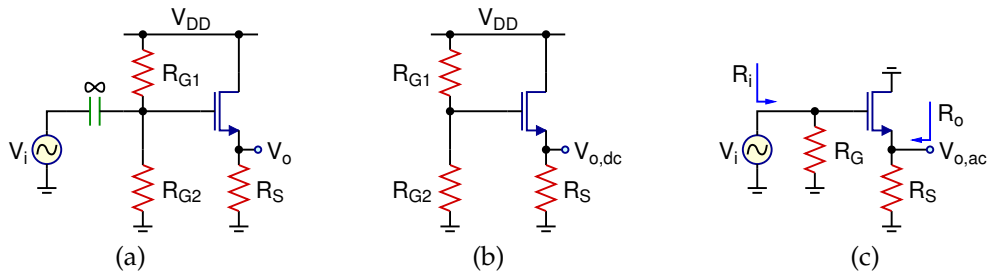

Figure 5: (a) NMOS Common-Drain (Source Follower) Configuration (b) DC equivalent (c) AC equivalent
Figures 5 and 6 show the common-drain configurations (also known as source follower) for NMOS and PMOS transistors, respectively. DC analysis of this configuration can be performed using the same equations given in (1) and (2), whereas AC analysis yields
- Using 2N7000G and the same R_{G1} , R_{G2} and R_S values from your common-source amplifier, calculate A_v , R_i and R_o for the source follower in Fig. 5.
- Draw the source follower schematic in Fig. 5(a) using the calculated component values and 2N7000G transistor.
2. Build the source follower circuit in Fig. 5(a) using the simulated component values and 2N7000G transistor.
4. For the source follower in Fig. 5(a):